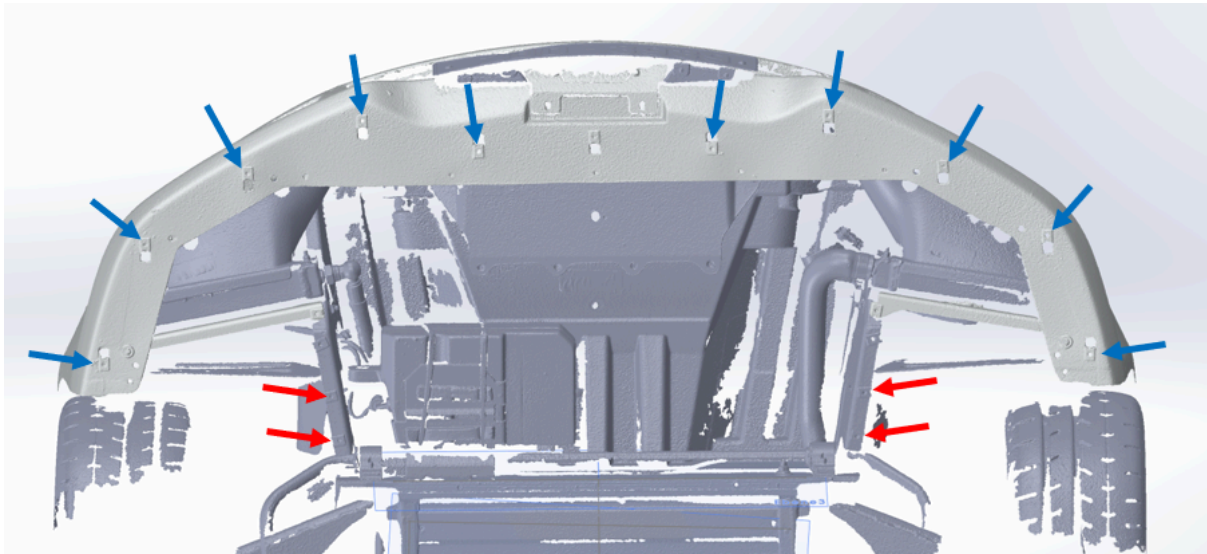

Fig 7: Put M6 slip nuts (30) on the marked positions.
- Put 10 pcs M6 slip nuts (30) on blue marked positions of frontclam as shown in Fig. 7 and exchange the red marked OEM ones to 4 pcs M6 slip-nuts (30).